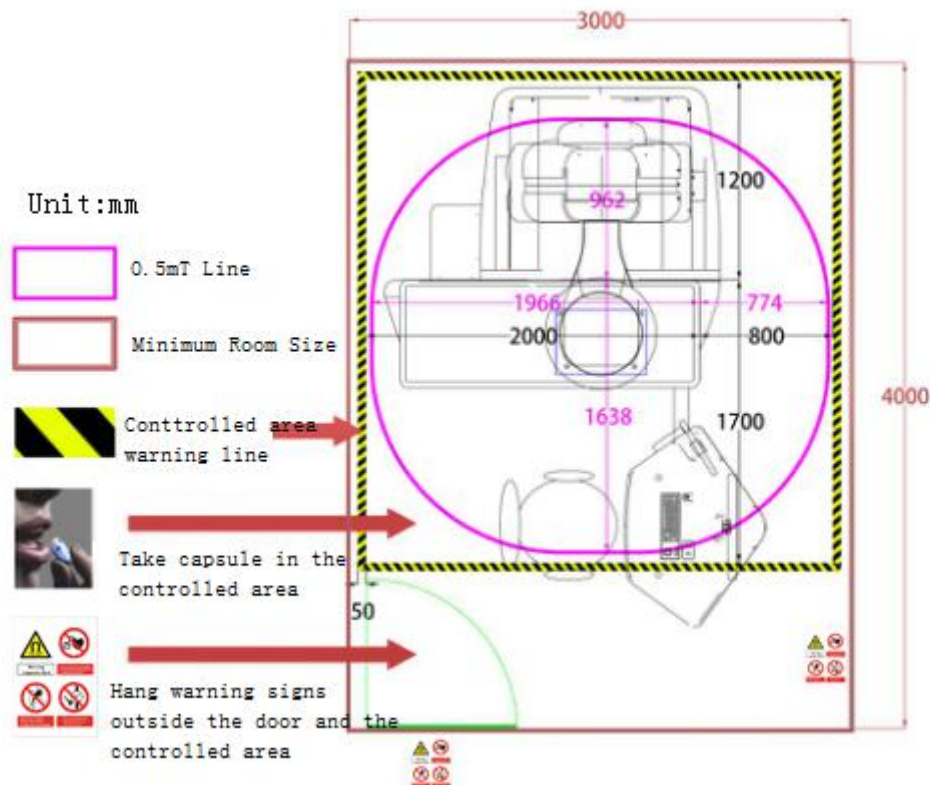

Figure 8- 1 Equipment Installation Schematic Diagram
- Determine the spatial line in accordance with the requirements of Figure 8- 1. It is advised to put warning tape at the spatial line but refer to your facility specific requirements.